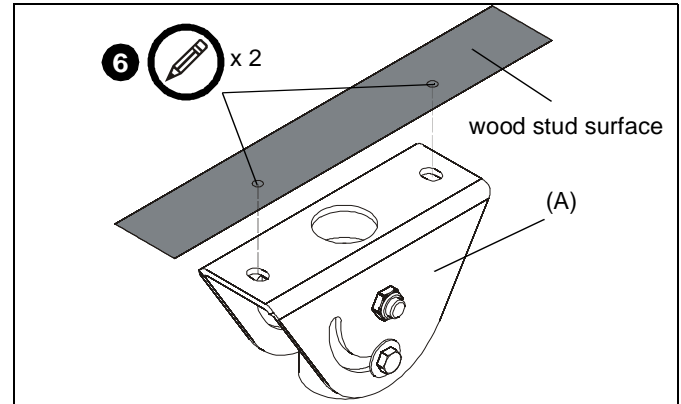

Figure 2
7. Use CMA395 (A) plate to mark hole locations for ceiling installation. (See Figure 2)